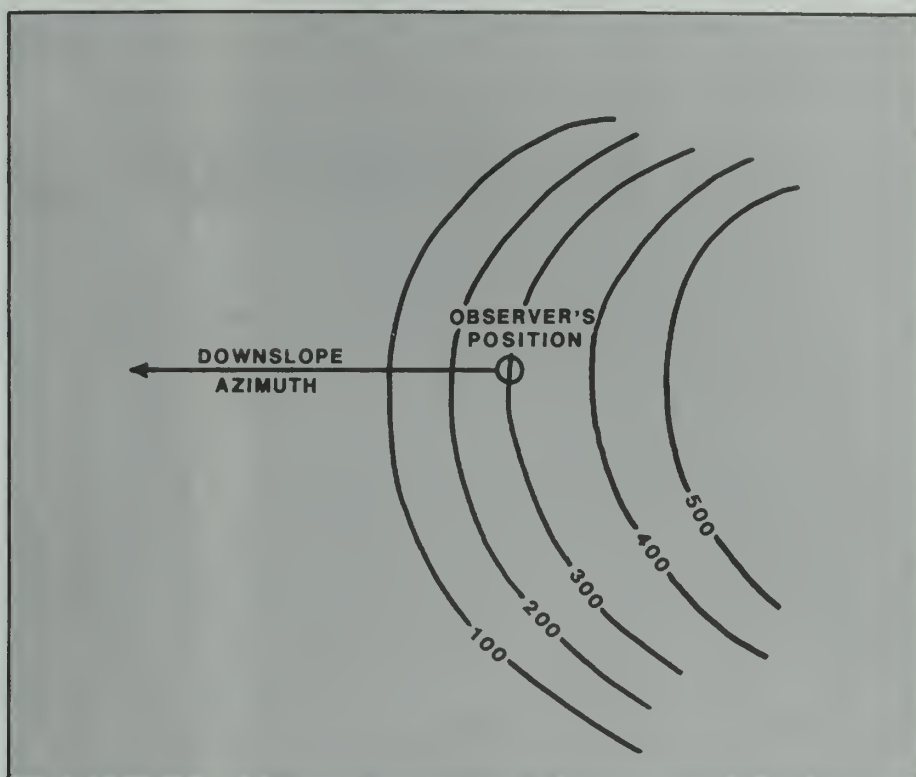

Figure 2
- You are on a rounded hillside and need to check your position. Your compass shows that at your position the hillside falls away on a grid azimuth of 270 degrees. Your altimeter shows that you are at 300 meters. You draw a line on the map down the hillside on this azimuth and note the point where it crosses the 300-meter contour line (Figure 2).